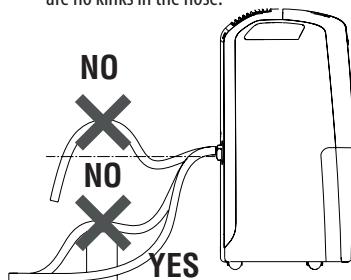

fig.5
3. Make sure the end of the hose is no higher than the spout (fig. 5) or water could remain in the tank. Make sure there are no kinks in the hose.